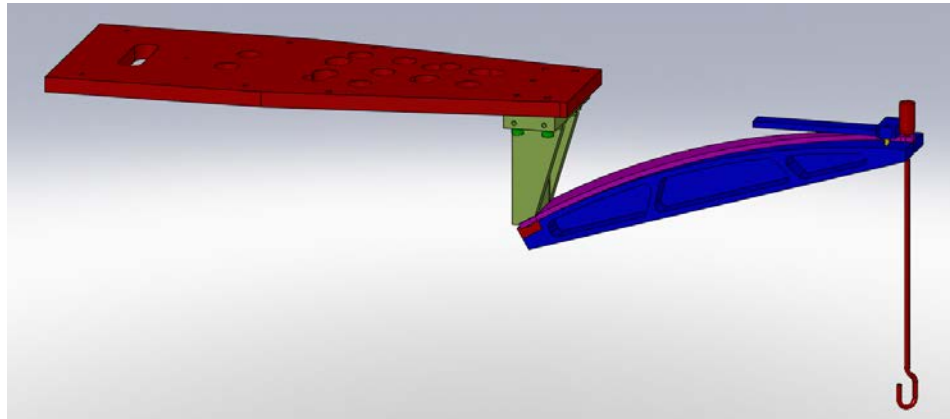

Figure 21: Spring Blade Loadin
- i. (2) C-2016-NA (1/4-20 x 1 SHCS Ag) upper placement
- ii. (2) C-2012-NA (1/4-20 x 3/4 SHCS Ag) lower placement
5. Turnover INTERFACE MOUNTING PLATE and place on table with bracket clearing edge of table, see Figure 21.